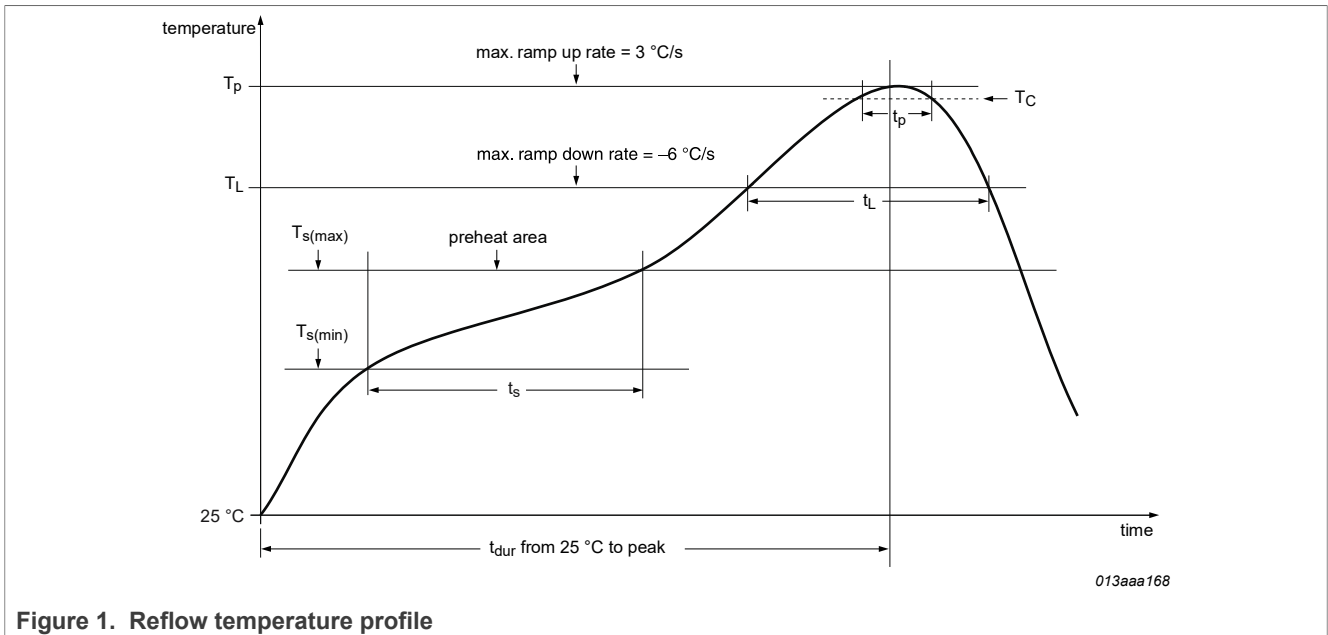

Figure 1. Reflow temperature profile
- Reflow temperature profile (see Figure 1; this profile includes preheat (T_s), reflow (in which the board is heated to the peak temperature (T_p)) and cooling down. It is imperative that the peak temperature is high enough for the solder to make reliable solder joints (a solder paste characteristic). In addition, the peak temperature must be low enough that the packages and/or boards are not damaged.
Figure 1 shows the reflow soldering temperature profile according to [ref.\[3\]](#), used for the qualification of the PCF2131 and PCA2131.
1. The reflow soldering profile shown in Figure 1 is recommended. A full convection reflow system, capable of maintaining the reflow profile of Figure 1, is recommended.
After one-time reflow soldering, processed in accordance with the recommended temperature profile shown in Figure 1 and Table 1, a frequency shift of -2 ppm is typical. Any other reflow temperature profile or multiple soldering can cause a different frequency shift after soldering. The frequency shift after soldering can be reduced by lowering the peak temperature T_p and shortening the time t_p of the soldering process (see Figure 1 and Table 1).